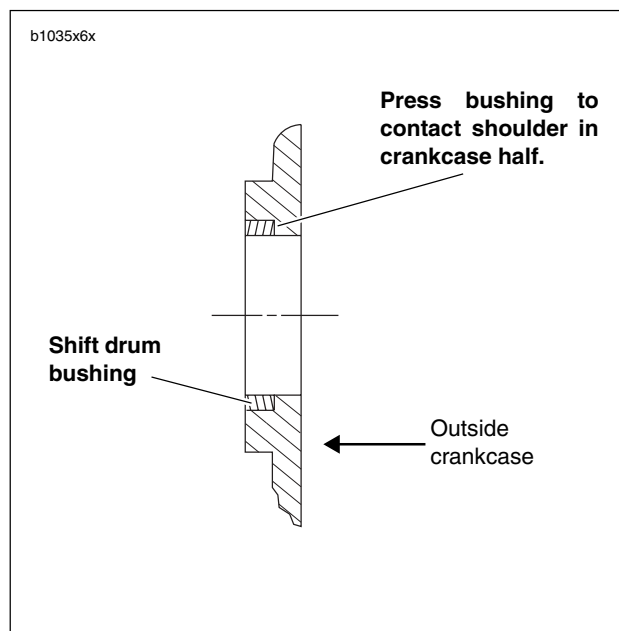

Figure 6-79. Shift Drum Bushing Assembly
2. See Figure 6-79. Lay bushing squarely over bore. Using a pressing tool larger than diameter of bushing, press bushing into bore until bushing contacts shoulder in left crankcase half. If using a pressing tool larger than diameter of bushing, the pressing tool will bottom against crankcase when bushing is flush with top surface.